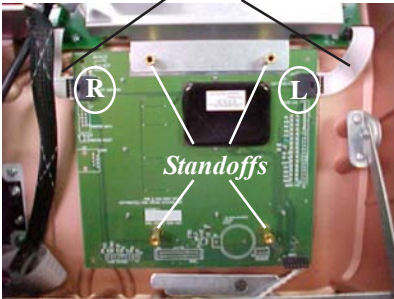

Figure 7. Function key cables and standoffs location (viewed from rear).
9. Disconnect the right Function keypad cable from the SPED board. Disconnect **both** ends of the left Function keypad cable and remove the cable. This will be replaced with a longer cable included in the kit. (Figure 7).
11. Remove the four (4) **short** standoff nuts that secure the bottom of the SPED board to the Control panel (Figure 7). Remove the old SPED board and rubber keypad.